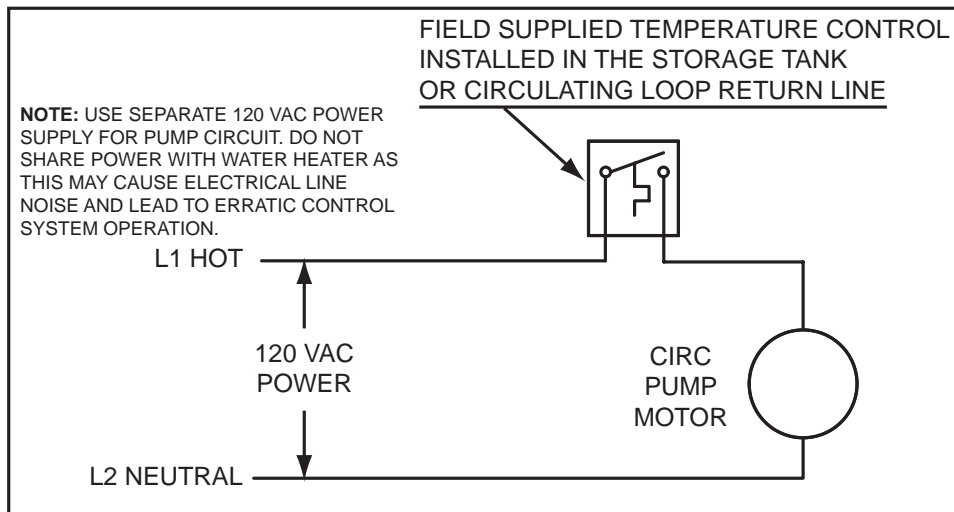
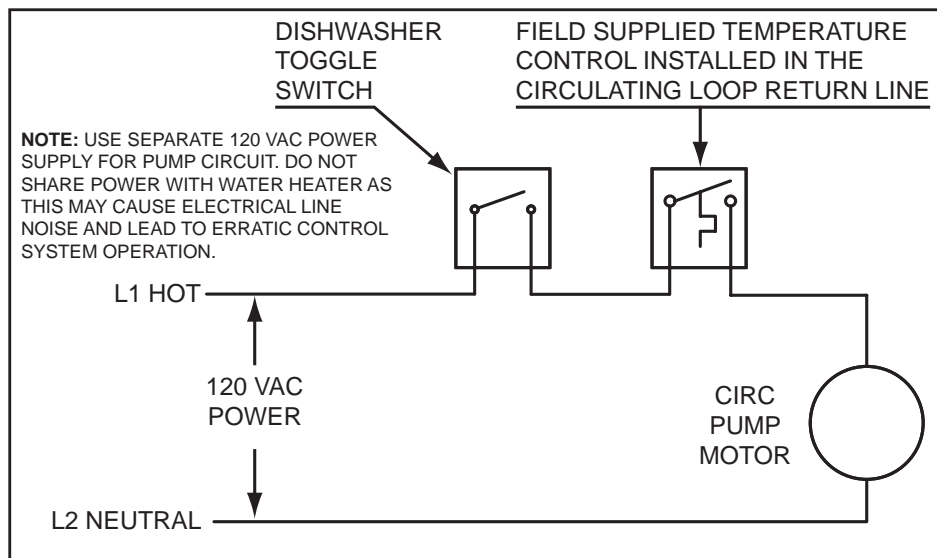

Figure 63. Circulating Pump Wiring Diagram - Storage Tank or Building Recirculation
Figure 64. Circulating Pump Wiring Diagram - Dishwasher Loop Toggle Switch
5. If a pump is being installed between a water heater and storage tank or on a building recirculation loop wire according to **Figure 63** (page 65).
6. If a pump is being installed in a recirculation loop between the water heater and a commercial dishwasher wire according to **Figure 63** or **Figure 64** (page 65).